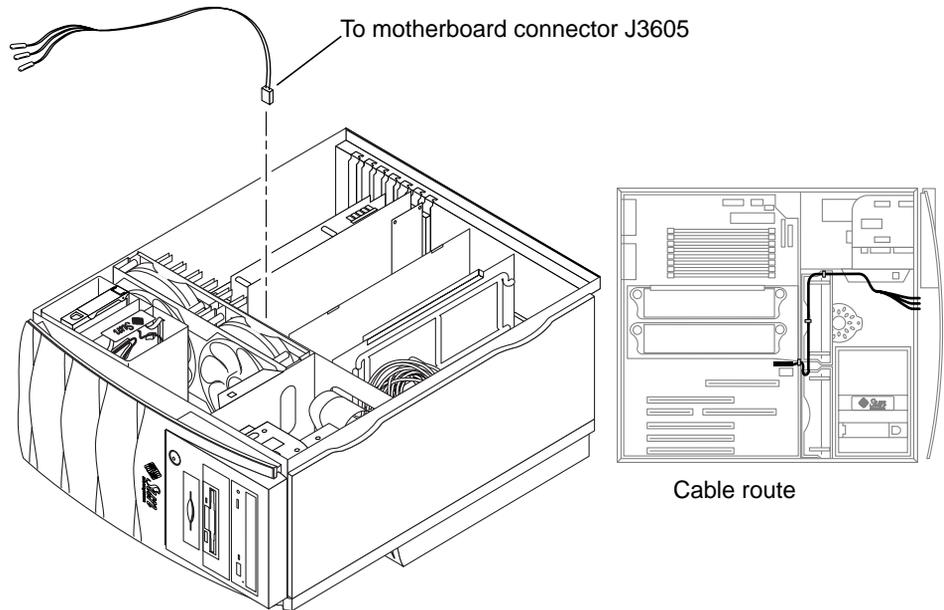

FIGURE 6-11 Removing and Replacing the Logo LED Cable Assembly
4. **Disconnect the logo LED cable assembly as follows (FIGURE 6-11):**
1. **Position the logo LED cable assembly in the chassis (FIGURE 6-11).**